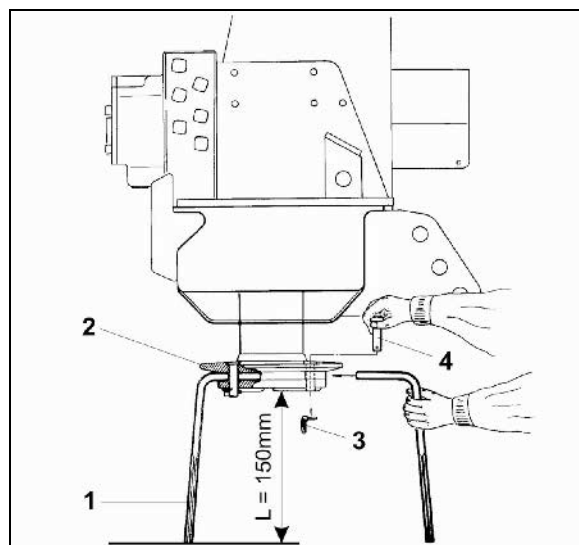

Fig. 57
The tines (Fig. 57/1) are fastened in the pockets of the rotor carriers (Fig. 57/2).
1. Pull the lynch pin (Fig. 57/3) out of the pin (Fig. 57/4).
2. Knock the pin (Fig. 57/4) out of the rotor carrier from below.